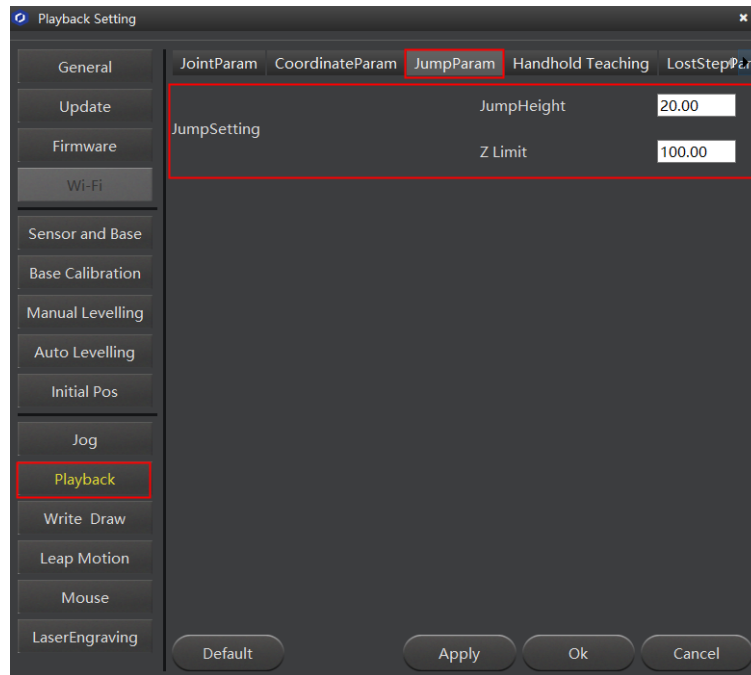

Figure 5.29 Jump parameters
2. Set the lifting height (**JumpHeight**) and the maximum lifting height (**Z Limit**) by selecting **Setting** > **Playback** > **JumpParam**, as shown in Figure 5.29.